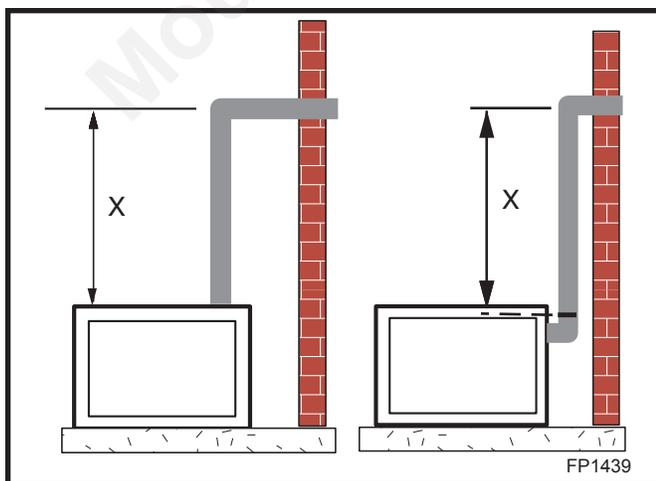

Fig. 26 Vertical height requirement.
Place fireplace into position. (Fig. 26) Measure the vertical height (X) required from the base of the flue collars to the center of the wall opening.